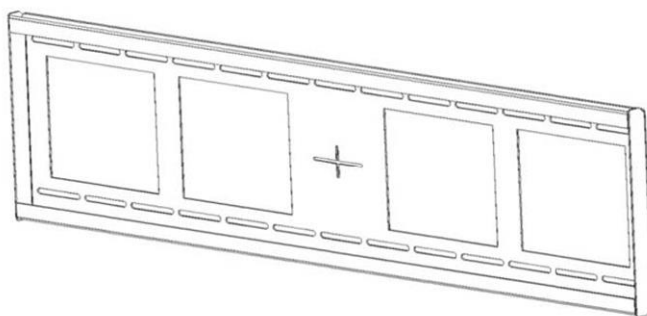

Figure 2. Wall bracket
- 201-0186: Wall Bracket – see figure 2